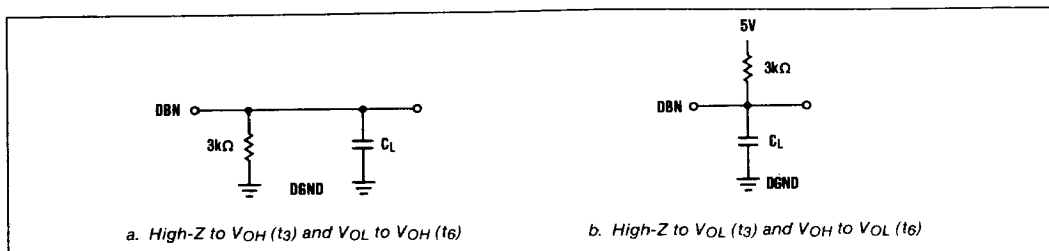

Figure 1. Load Circuits for Access Time
**Note 9:**  $t_3$  and  $t_6$  are measured with the load circuits of Figure 1 and defined as the time required for an output to cross 0.8V or 2.4V.